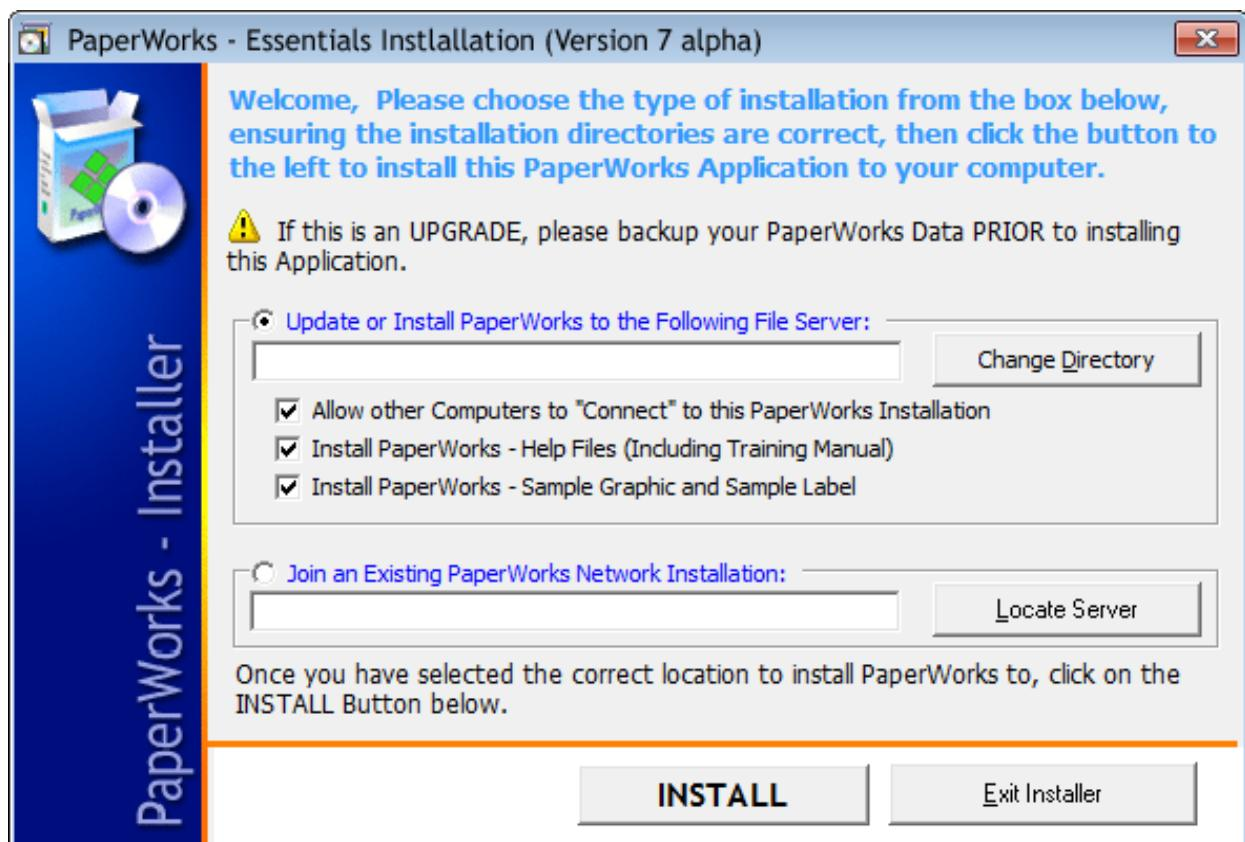

Figure 1.1 - Intelogy Setup
4. Please read the End-User license agreement carefully. If you agree and wish to continue to install Intelogy - Essentials, click the ‘I Agree’ option and then *click* the ‘OK’ button. This displays the ‘Intelogy Setup’ screen, refer to figure 1.1.